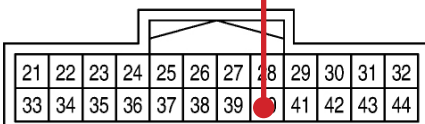
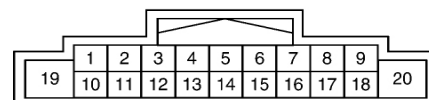

Fig. 1
Fig. 2
2. Locate the light green accessory wire in the 24-pin Nissan factory harness (Fig. 1). This wire will need to be jumped to the red wire located in pin 16 of the 20-pin RP4 harness (Fig 2).